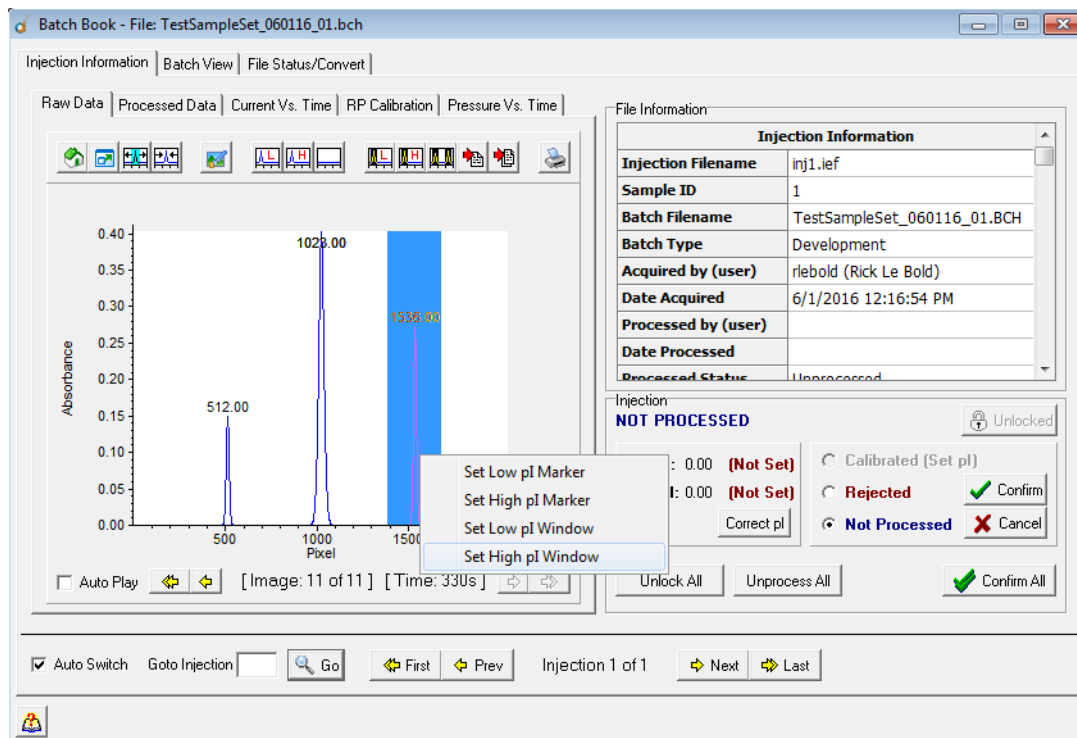

Figure 7-20: Setting high pI window in the Injection Information tab.
3. Set the high pI marker window by clicking in the electropherogram and dragging the mouse over the high pI marker peak (typically the last peak) as shown in Figure 7-20. If there are multiple peaks at the end of the data, the high pI marker will be the largest peak.
- If you need to recalibrate, the data file will need to be unlocked. Data files can either be unlocked one at a time by clicking the **Locked** button or you can unlock an entire batch by clicking **Unlock All**(Figure 7-20).